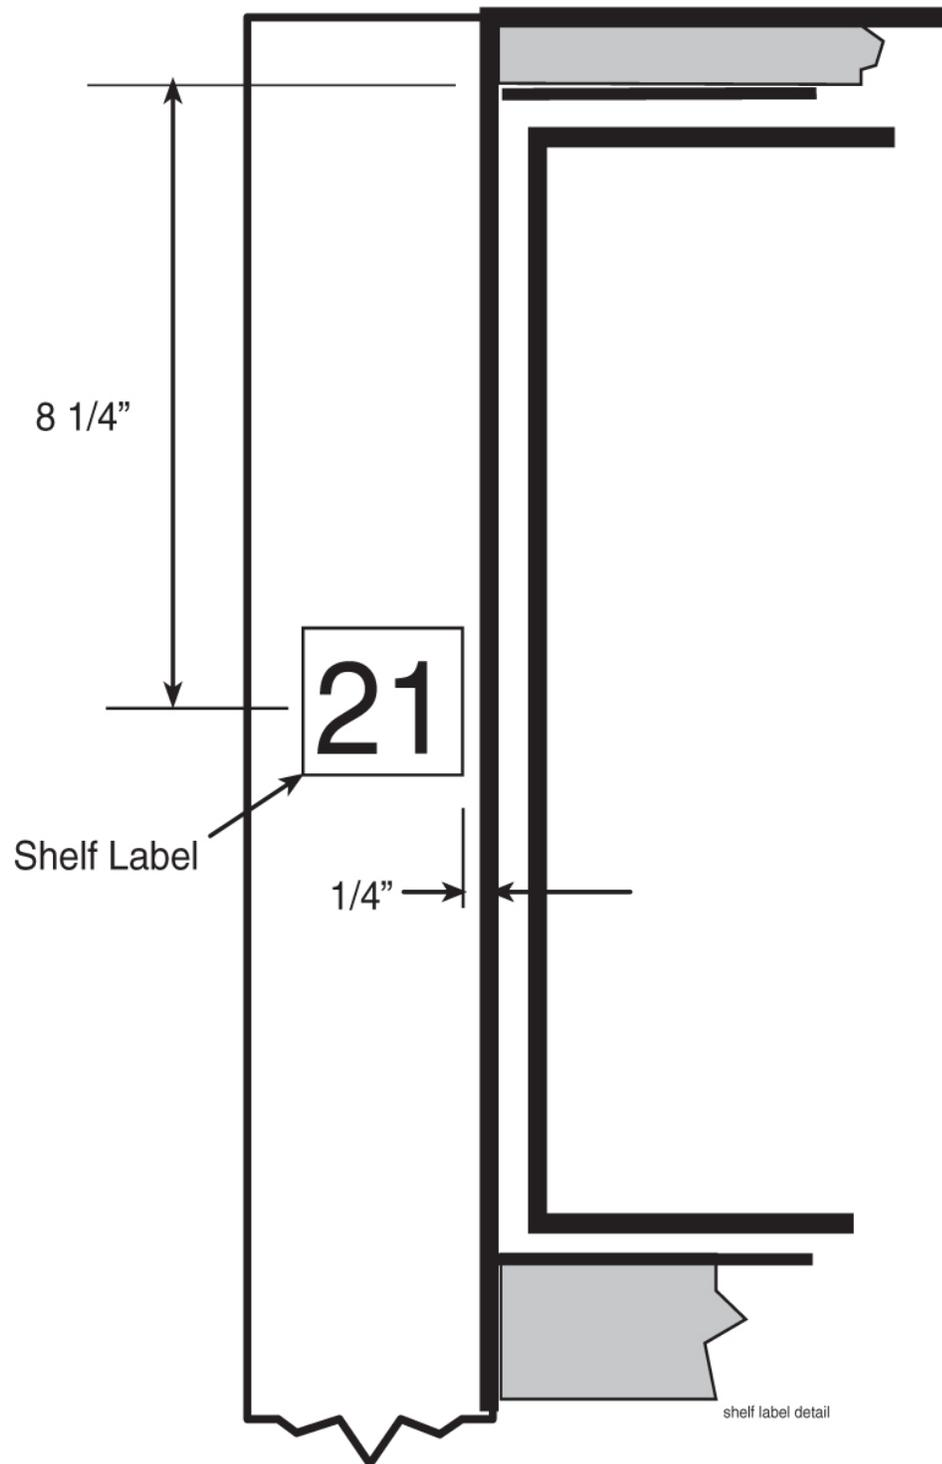

Figure 34: Shelf Label Location - Detail
Apply shelf labels to the frames of the system as shown in Frame Labeling. Refer to Figure 34: Shelf Label Location - Detail for exact placement. Refer to Table 7: Shelf Labels and Part Numbers for the proper label for each shelf.
2. Firmly press the label into place as shown in *Frame Labeling* and *Figure 34: Shelf Label Location - Detail*.